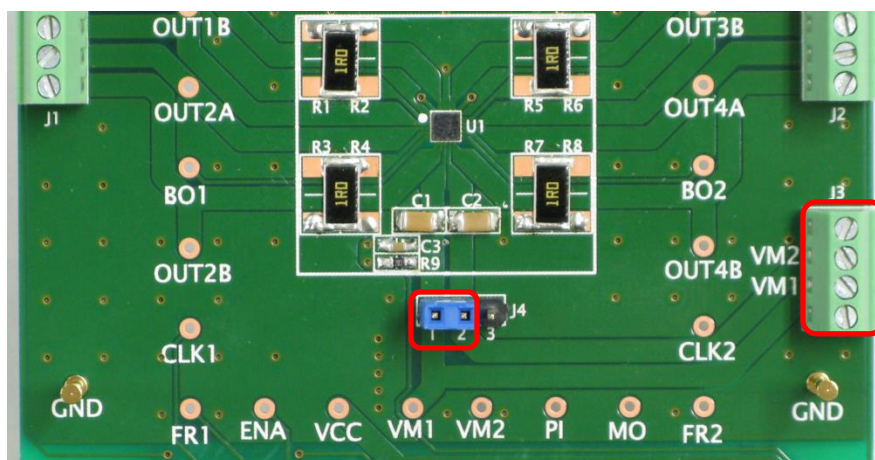

Figure 4. Power Supply Connectors and Jumper J4
- To supply the same voltage to VM1 and VM2, a single power supply must be connected to either VM1 or VM2 pin of the connector J3, while the pin 1 and pin 2 of the jumper J4 are shorted. (shown in Figure 4).